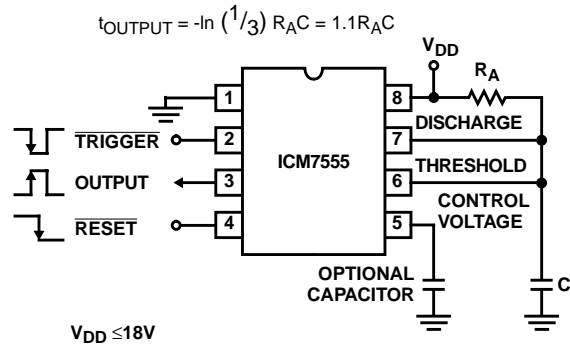

FIGURE 3. MONOSTABLE OPERATION
In this mode of operation, the timer functions as a one-shot, see Figure 3. Initially the external capacitor (C) is held discharged by a transistor inside the timer. Upon application of a negative TRIGGER pulse to pin 2, the internal flip-flop is set which releases the short circuit across the external capacitor and drives the OUTPUT high. The voltage across the capacitor now increases exponentially with a time constant $t = R_A C$. When the voltage across the capacitor equals $2/3 V+$, the comparator resets the flip-flop, which in turn discharges the capacitor rapidly and also drives the OUTPUT to its low state. TRIGGER must return to a high state before the OUTPUT can return to a low state.